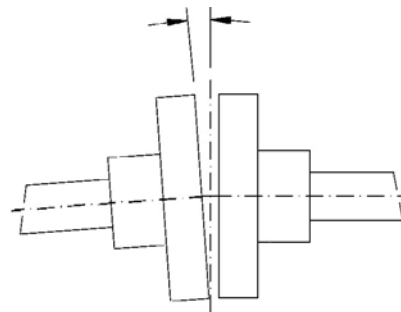

Figure 10-1: Parallel and Angular Misalignment Measurements
- The driven equipment is rotated and alignment values recorded per Figure 10-1.
- The driven equipment on each side is aligned to the motor and values recorded per Figure 10-1.